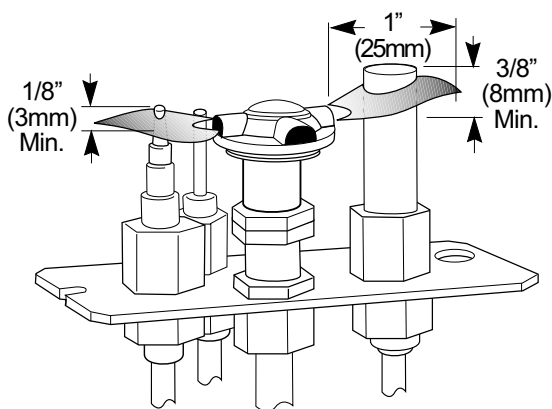

Figure 28. Proper pilot flame appearance.
2. **PILOT FLAME:** See figs. 28 and 28a. You can monitor the pilot flame through the view port located at the rear under the Right Log. The pilot flame should be steady - not lifting or floating. The flame should be blue in color around the pilot hood, with traces of yellow toward the outer edges.
- **Inspect the pilot head, thermopile and thermocouple for signs of rust or deterioration and replace any components that do.** Check that the pilot head is properly engaged with the throat and is oriented correctly. See fig. 28, page 17.